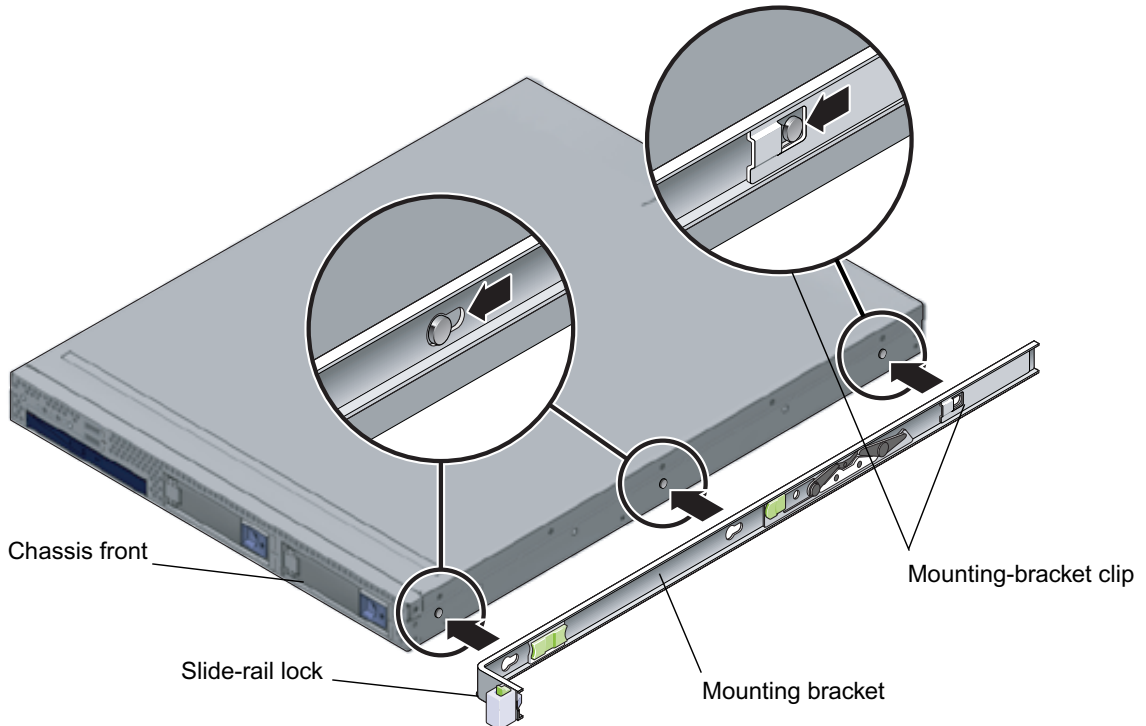

FIGURE 1-3 Aligning the Mounting Bracket With the Server Chassis
1. With the heads of the three chassis locating pins protruding through the three keyed openings in the mounting bracket, pull the mounting bracket toward the front of the chassis until the mounting-bracket clip locks into place with an audible click. (See FIGURE 1-3.)
2. Verify that the rear locating pin has engaged the mounting-bracket clip. (See FIGURE 1-3.)